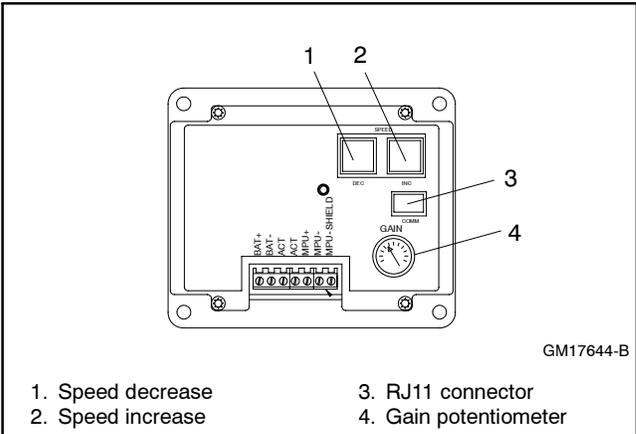

Figure 2 Governor Controller Functions
Note: Some existing governor controllers do not require programming. Only governor controllers with a RJ11 connector (see Figure 2) need programming.
The microprocessor-based, digital isochronous governor allows adjustment of set speed and gain. Other adjustments include acceleration, deceleration, ramp rates, idle speed set, and hold time. The COMM port provides simple programming when connected to the user's PC. See Figure 2 for governor controller illustration and Figure 3 for specifications.
The governor controller keypad provides functions as described below. Refer to Figure 2 illustration.
2.2.2 Connect the supplied cable included in the kit from the user-supplied PC 9-pin RS-232 serial port to the governor controller RJ11 connector (telephone jack). See Figure 2.